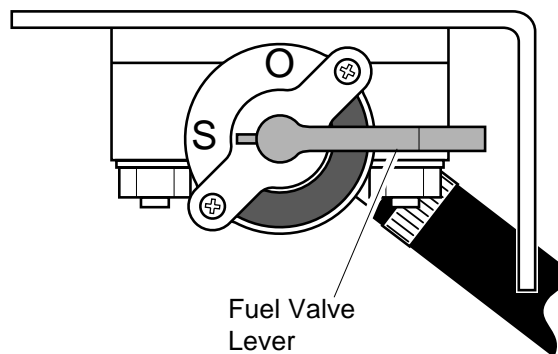

Figure 22 - Fuel Valve Lever In “S” Position
5. Turn fuel valve lever off. Do this by moving valve lever to the “S” position (see Figure 22).